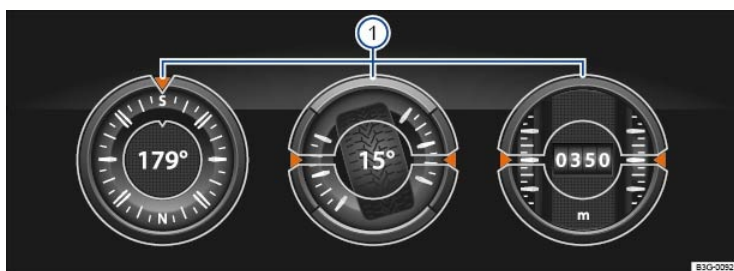

Fig. 122 In the Infotainment system: Off-road display (if equipped).
The display in the Infotainment system can show a maximum of 3 instruments at any given time ⇒ Fig. 122 ①.